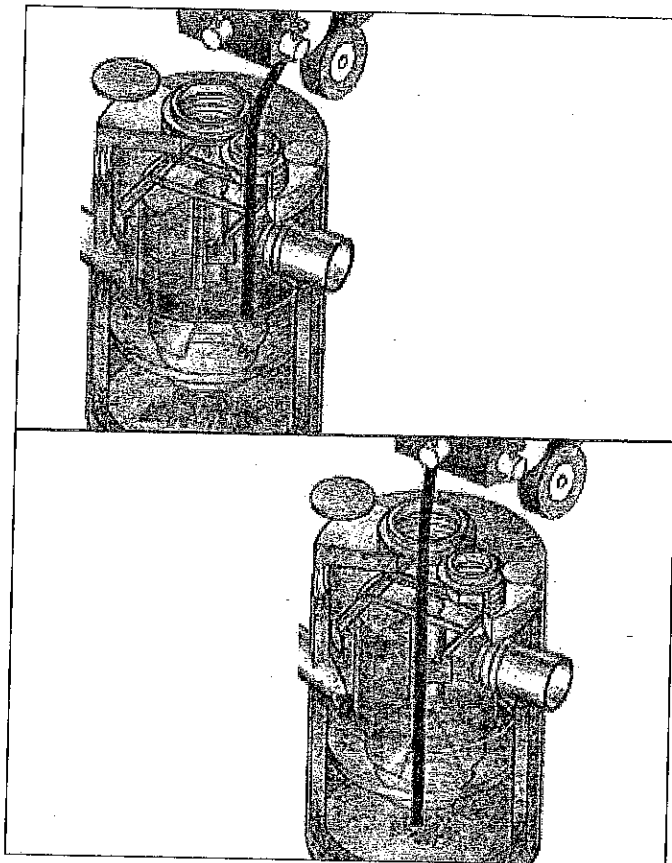

Fig.9 Floatables and sediment are removed with a vactor hose
4. Using the Floatables Port for access, remove oil and floatables stored on the surface of the water with the vactor hose or the skimmer net (Fig.9, top).